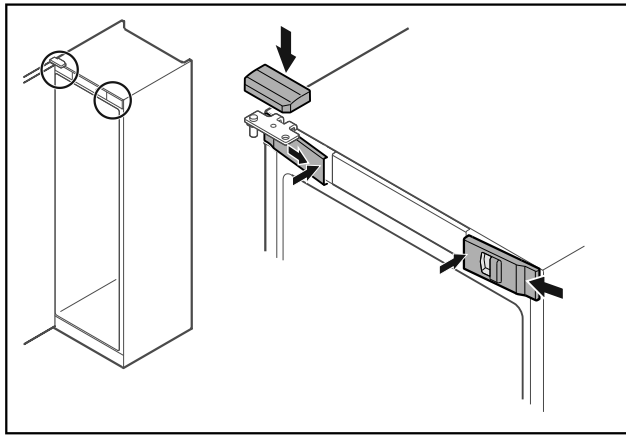

Fig. 52
- ▶ Hook in the front covers Fig. 52 (1) on the side and snap them into place on the inside.
- ▶ Snap on the top cover Fig. 52 (2) from above.